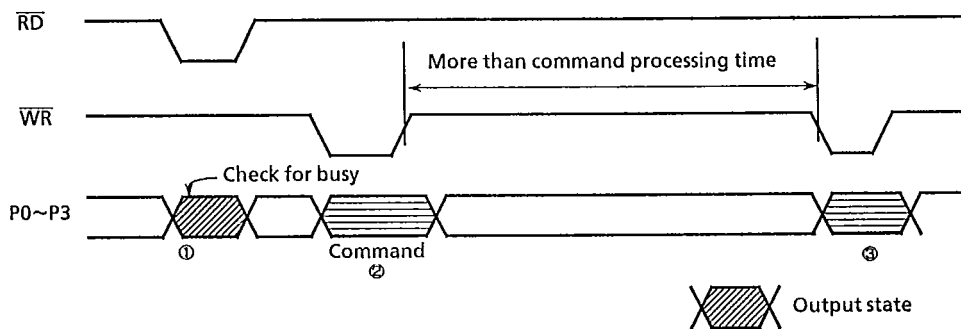

Fig.5.12 How to write command
As shown in Fig. 5.12, ①using \overline{RD} pulse, read status from TC8830AF and check BUSY flag ②If not busy state, after setting up command in P0~P3, write a command using \overline{WR} pulse. In case of such 3 nibble commands as LABEL, keep at command processing time (refer to section 5.2.5), ③write the 2'nd and 3'rd nibbles.